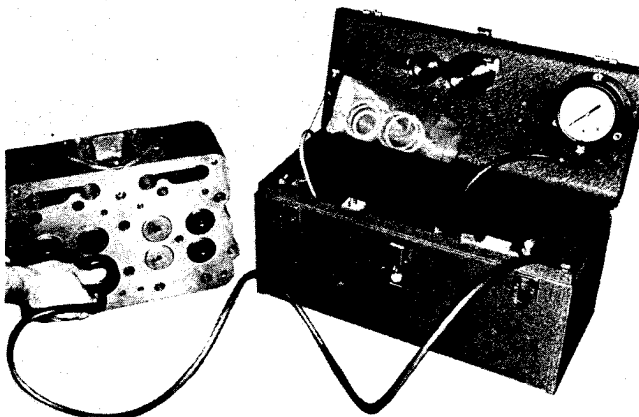

Fig. 2-19, (N10297). Vacuum test valves for leaks
1. Operate vacuum pump until hand on vacuum gauge (Fig. 2-19) reaches 18 to 25 inches vacuum. Close shut-off valve, release push button to stop pump.